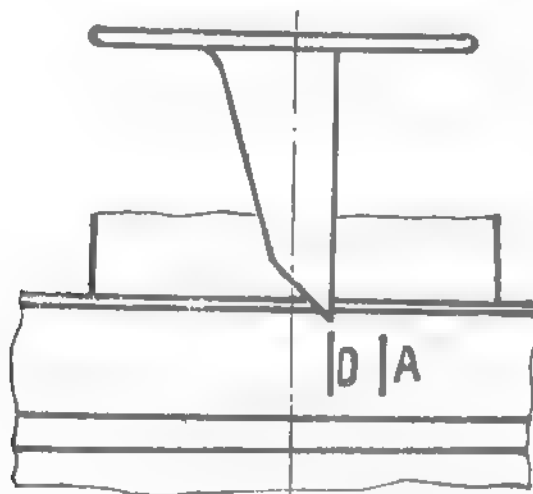

Fig.2.16. CORRECT CRANKSHAFT POSITION AGAINST THE TIMING POINTER,
- Turn still the crankshaft, following this time with attention untill the mark "0" on damper of crankshaft pulley falls in line with timing pointer (see fig. 2.16) and the valve No.1 (counted from the front of the car) is in opened position (descended).